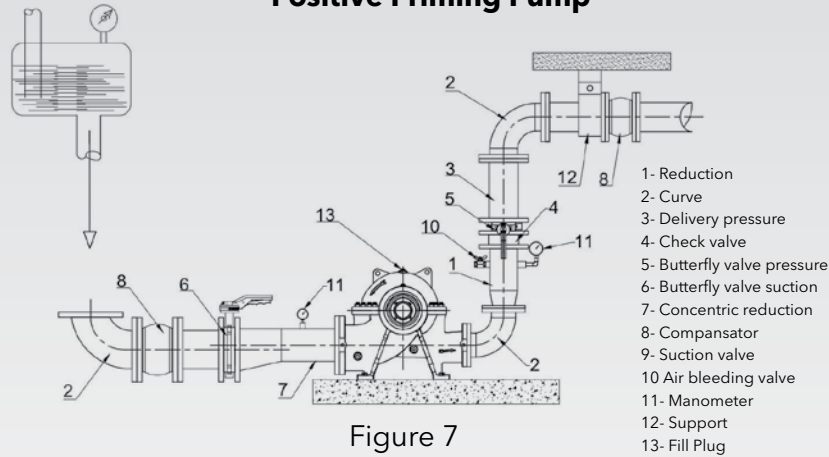

Figure 7
- The pipelines have been anchored in close proximity to the pump and connected without transmitting any stresses or strains Fig. 7 page 19.
2. Remove the fill plug (13) or gauge plug (11) and open the on/off valve upstream until the water flows out of the hole. Close the fill or gauge plug (11&13). Fig. 7 - 8